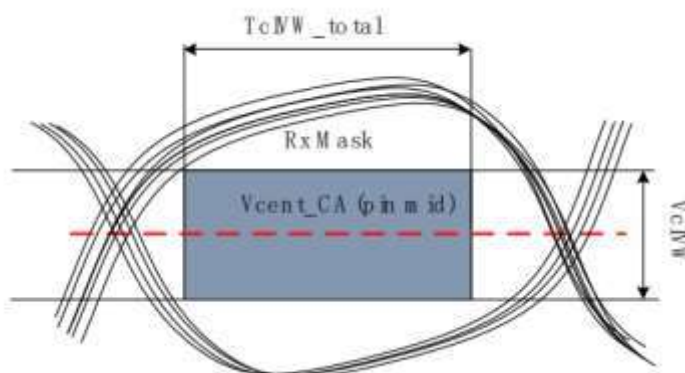

Figure 8-1 CA Receiver (Rx) Mask
The command and address(CA) including CS input receiver compliance mask for voltage and timing is shown in Figure 8-1. All CA, CS signals apply the same compliance mask and operate in single data rate mode.